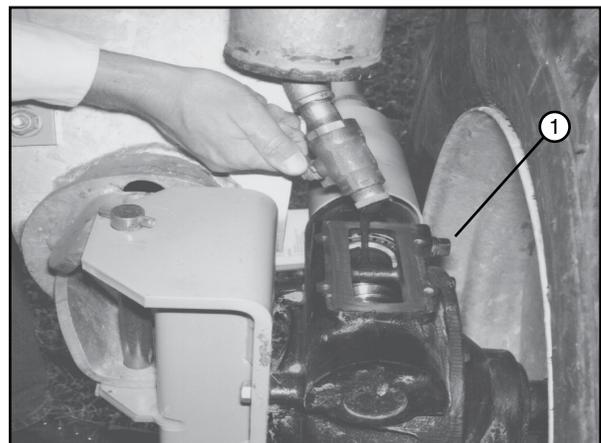

Figure 89-3 1. Check Plug
- Fill gearbox to the top of worm gear shaft or remove the check plug and fill until the oil begins to flow out of the check plug hole. See Figure 89-3.